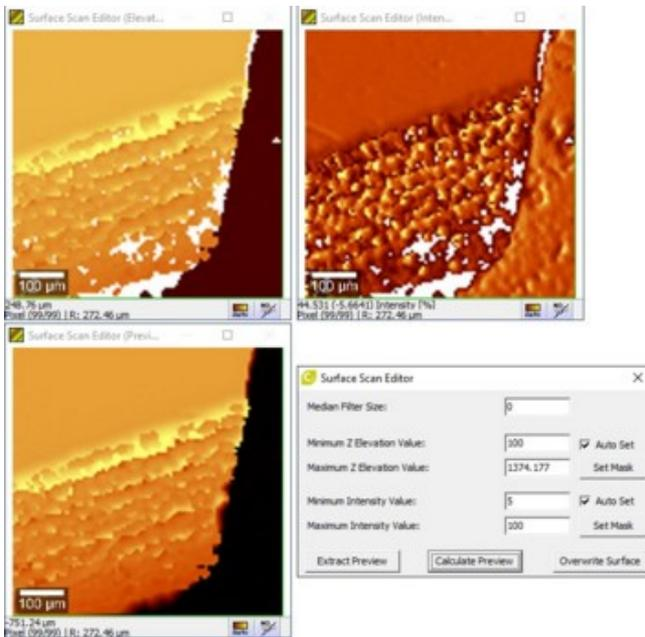

Figure 1: Surface Scan Editor
8. Surface points with a Z Elevation below zero or too low intensity have to be removed. Change the filter settings and click on Calculate Preview. (Figure 1)
9. Click on Overwrite Surface (Figure 1)
10. Optional: Click on Extract Preview (Figure 1) (Image could be used for navigation in 14.)